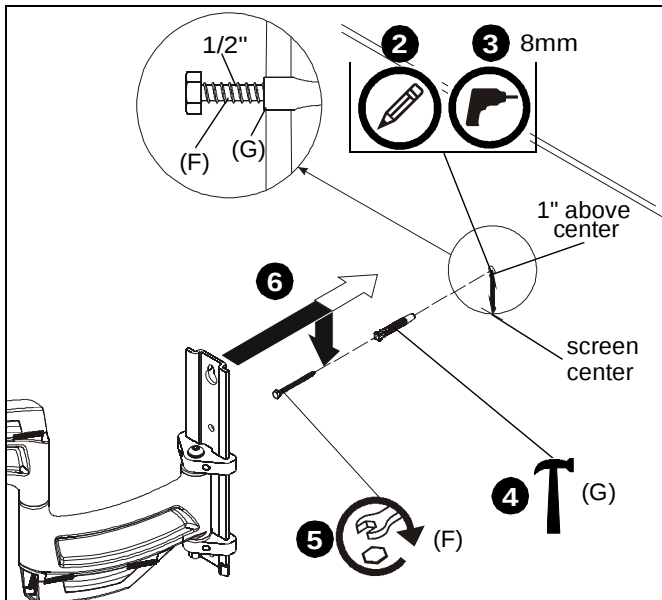

Figure 3
2. Measure 1" above desired center line and mark a hole at desired mounting location. (See Figure 3)
**IMPORTANT ! :** Use a level to make sure main assembly (J) is level when mounted to the wall!
3. Drill one 8mm hole at location marked in Step 2. (See Figure 3)
4. Install one concrete anchor (G) into drilled hole. (See Figure 3)
5. Install one 1/4 x 2 1/2" lag bolt (F) into concrete anchor (G), leaving bolt hanging out 1/2" from the wall. (See Figure 3)
6. Hang main assembly (J) onto lag bolt (F) by latching key-shaped hole over top of bolt. (See Figure 3)